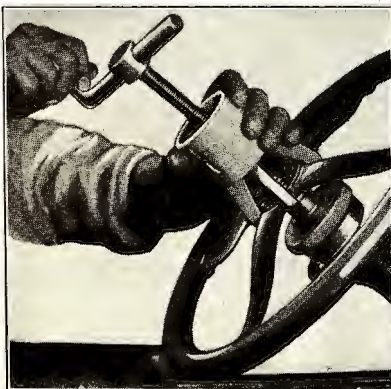

Fig. 14
- (e) Remove steering wheel by running off steering wheel nut and withdrawing wheel from drive pinion with a puller (See Fig. 14).